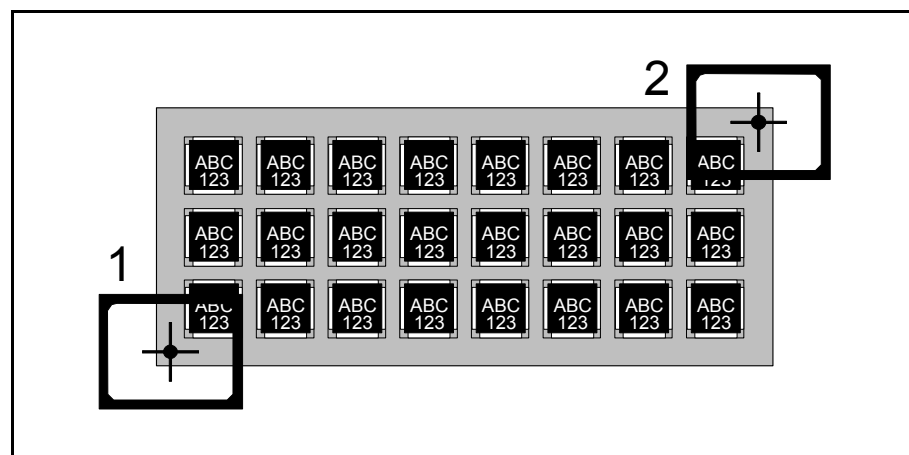

Figure 6-10. Positioning fiducial marks
Figure 6-10 shows the cross hairs on the first fiducial mark (1) and on the second fiducial mark (2).